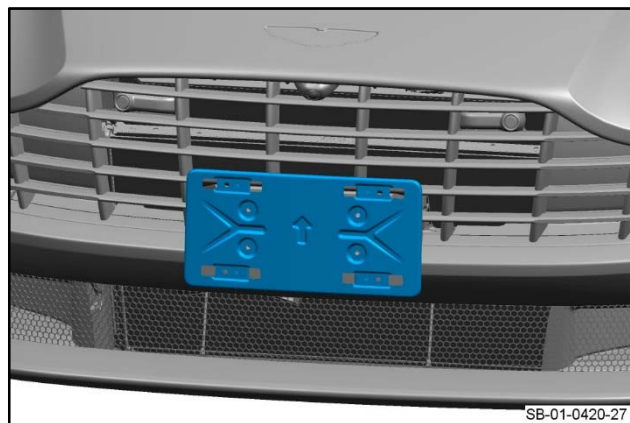

Figure 27
6. Put the front cover for the front license plate plinth into position (refer to Figure 27)